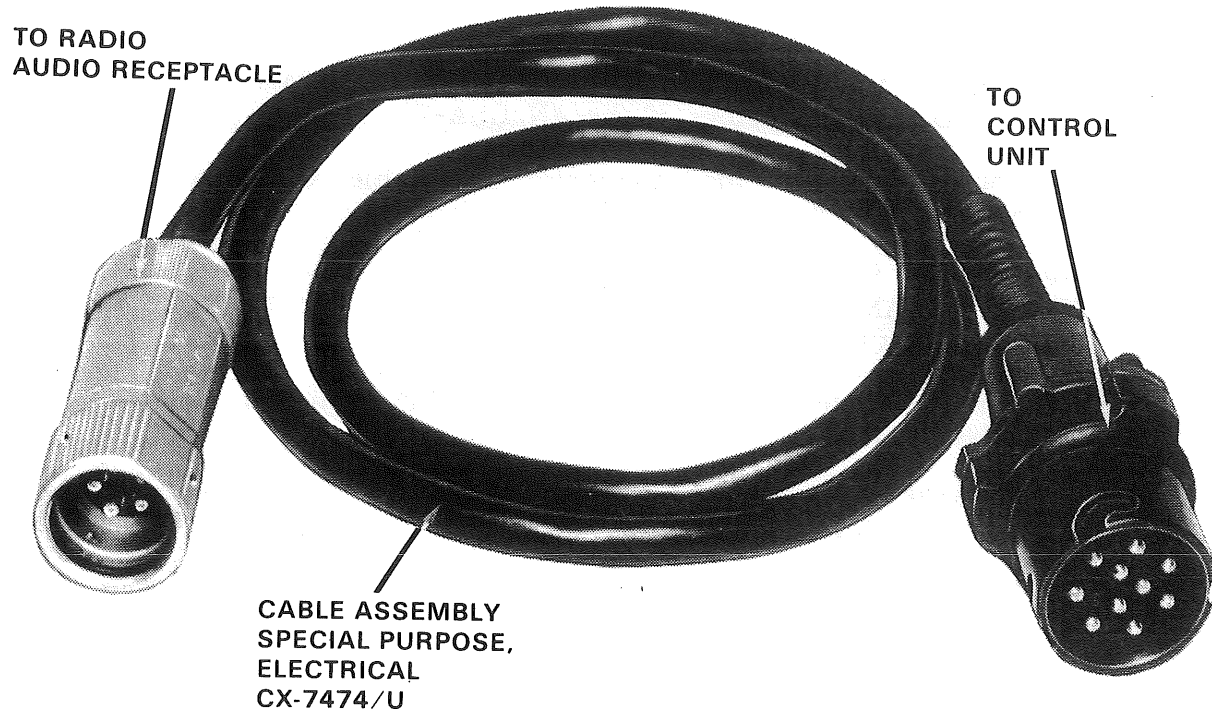

Figure 2. Cable Assembly, Special Purpose, Electrical CX-7474/U.
- b. Insure Cable Assembly, Special Purpose, Electrical CX-7474/U is present. (Refer to fig 2, and TM 11-5820-401-12, chap 6, sec II, para 6-9a(1), b(2), p 6-9.)